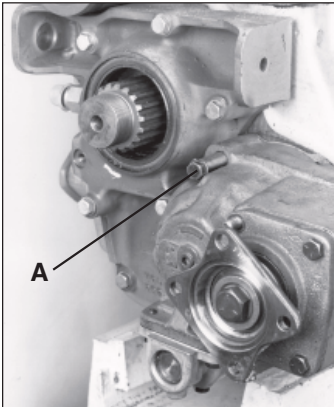

Fig. 11
Make sure the 500365-26 washer is placed first on the 378431-26 Hex Head Screw and then the 379164 cone lock sleeve is placed on. Now you can install the cap screw assembly (A) in the top left bolt hole. (Fig. 11)